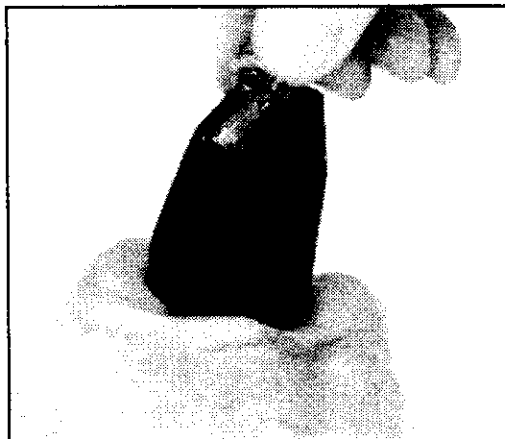

Figure 9 Loading the Magazine
2.7 Loading and Unloading the Magazine - (See Figure 9)